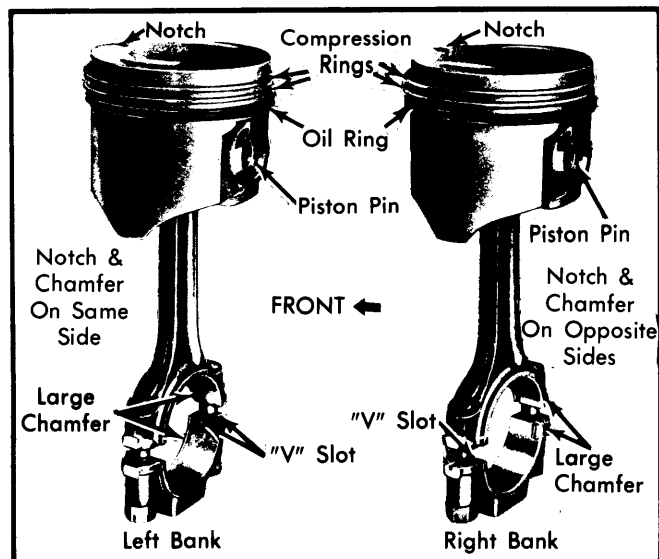

Fig. 7 Precautions for Assembling Piston to Connecting Rod
2) Place piston (with front up) and connecting rod over pilot so pilot extends through piston pin holes. Assemble rods to pistons of the right cylinder bank (2,4,6 and 8) with indent on piston head opposite to larger chamfer on large bore end of connecting rod. Assemble rods to pistons of the left cylinder bank (1,3,5 & 7) with indent on piston head on the same side as the large chamfer on the large bore end of connecting rod. See Fig. 7.